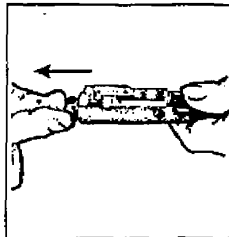

Figure 071-311-2025-31. Pulling back on the bolt
i. Place the charging handle by engaging it, then pushing the charging handle part of the way in (figure 071-311-2025-32).